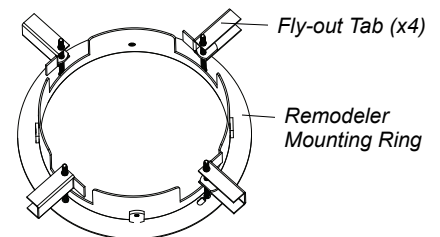

Figure 10: Remodeler Mounting Ring
- Step 3. Position remodeler mounting ring (Figure 10) through hole and turn screws so fly-out tabs swing away from ring. Tighten each tab until the remodeler mounting ring is secured to ceiling.